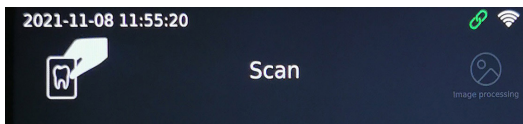

Figure 15
e) Open the software, click the Acquisition button, and select the Duray Scanner DC1 device type. After connecting the device, the IP address will be displayed below the device type. Click open, and the device will enter the acquisition state, and images can be collected, as shown in Figure 15.